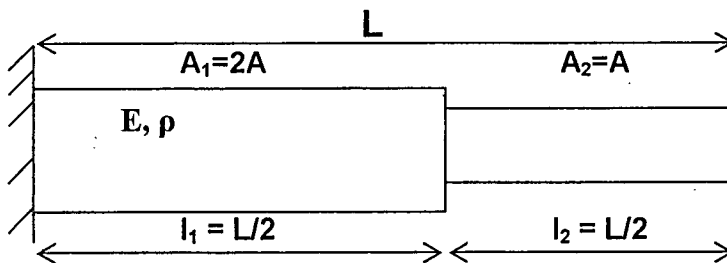

Figure.15.a
15.b Find the natural frequencies of longitudinal vibration of the constrained stepped bar shown figure 15.b. 16